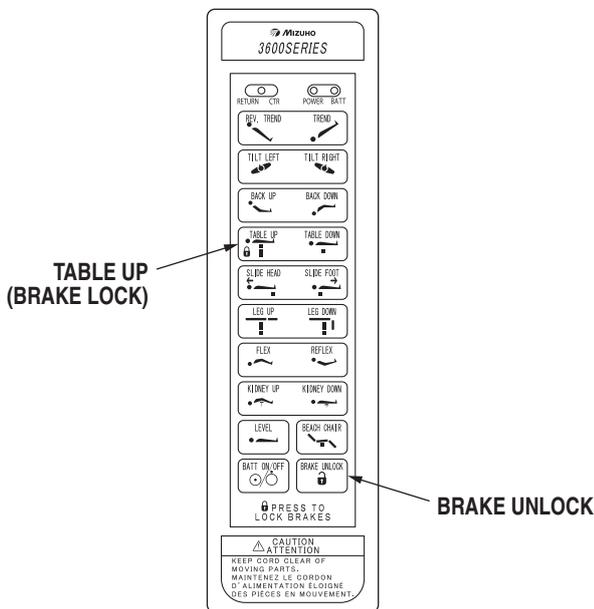

Figure 2-6. Brake System Activation
a. Floor Lock/Brake System To activate the brakes without affecting table positioning, press the TABLE UP button. See figure 2-6. The elevation cylinder will not function until the brakes are completely extended.
Press the BRAKE UNLOCK button on the pendant control to release the four self-leveling brake feet in order to move the table. See figure 2-6. The brake delay circuit automatically retracts the brake system. It takes approximately 7-8 seconds to totally release the system.